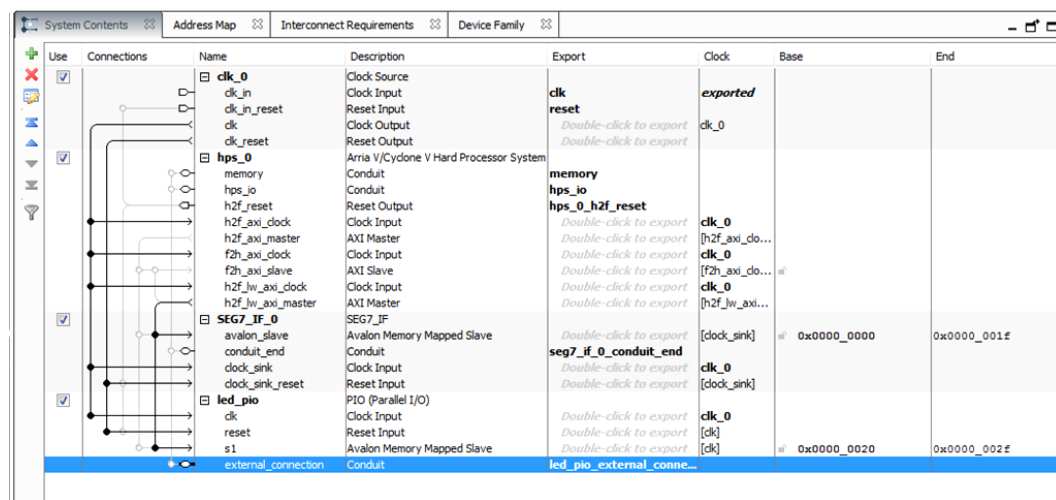

Fig. 6: QSys System Components and Connections
7. The base addresses present on the component conduits may overlap and generate an error in the Messages window. In QSys, select "System" - "Assign Base Address". Your QSys system and connections should now resemble Fig. 6. There should also be no warnings or errors in the Messages window.